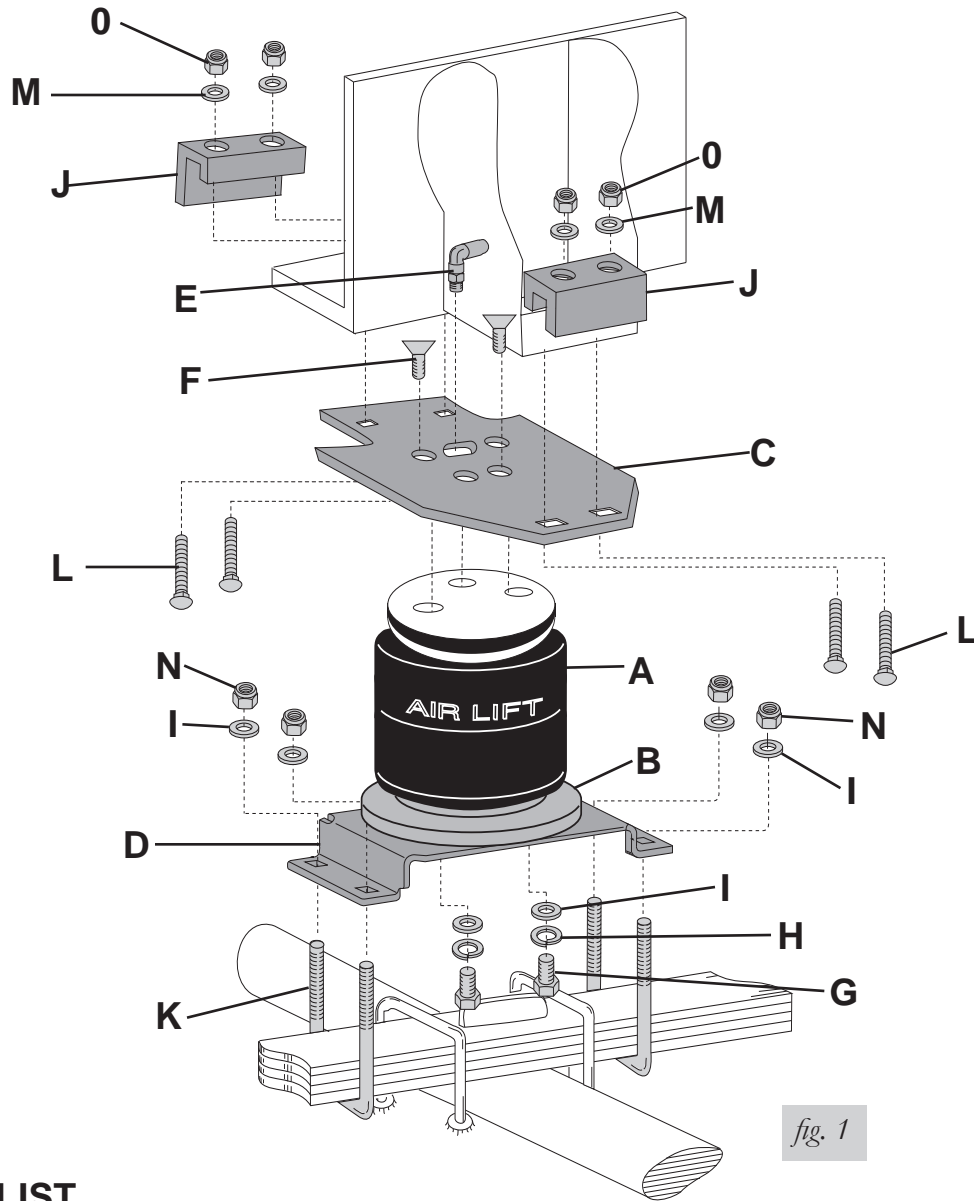

fig. 1
flange, forward of the axle (see fig.1 and fig. 6a).
6. Install the u-bolts under the leaf spring, through the lower bracket and cap with a 3/8" flat washer and nyloc nut. Torque the u-bolts evenly to 16 ft/lbs. Trim the excessive length of the u-bolts close to the nyloc nut (see figs. 1 and 8). Repeat for the opposite side.